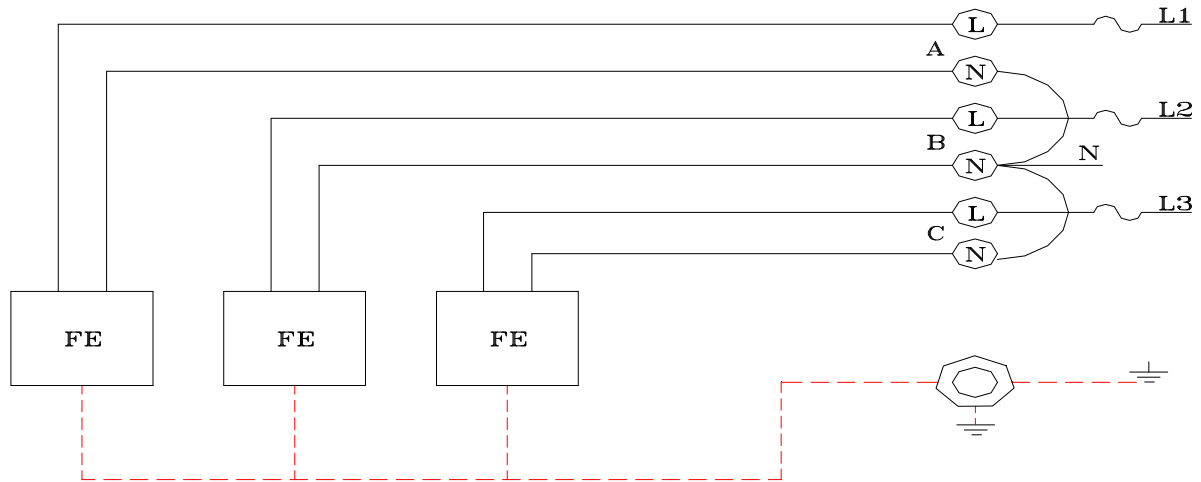

Figure 5. Three-Phase (Y) Configuration L1, L2, L3, N 120/208V Mains
6.3 Three-Phase (Y) Configuration
The three-phase (Y) configuration can be applied to FE6K-XE and FE6K-NE power shelf units only, as shown in Figure 5.
Connection to the mains should be done strictly according to Figure 5. Wrong connection at the input may damage the FE power modules. An external fuse needs to be installed into each line.